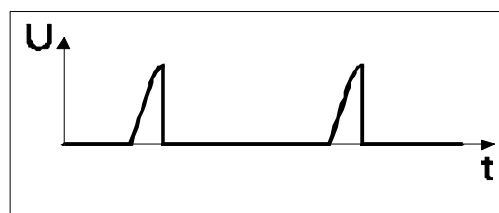

Fig. 1 - pulse-type high voltage
- on the voltage **type** (see Fig.1)